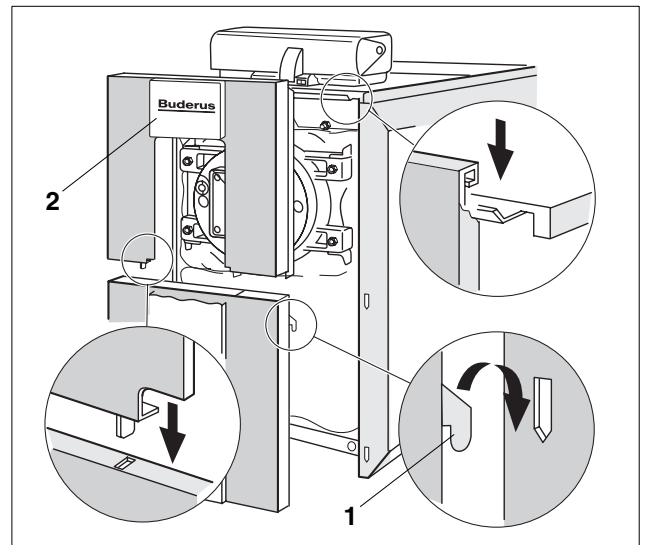

Fig. 22 Upper and lower front jacket panels
- Hang the lower front panel with the four tabs (Fig. 22, **Item. 1**) into the slots of the side jacket panels.
- Latch the tabs of the top front panel into the side jacket panel slots and rest the top part into the top front cover (Fig. 22).
- Hang the top and bottom front cover pieces at the tabs on the front panels (Fig. 22).
- Affix the name plate cover (Fig. 22, **Item. 2**) on the front panel.